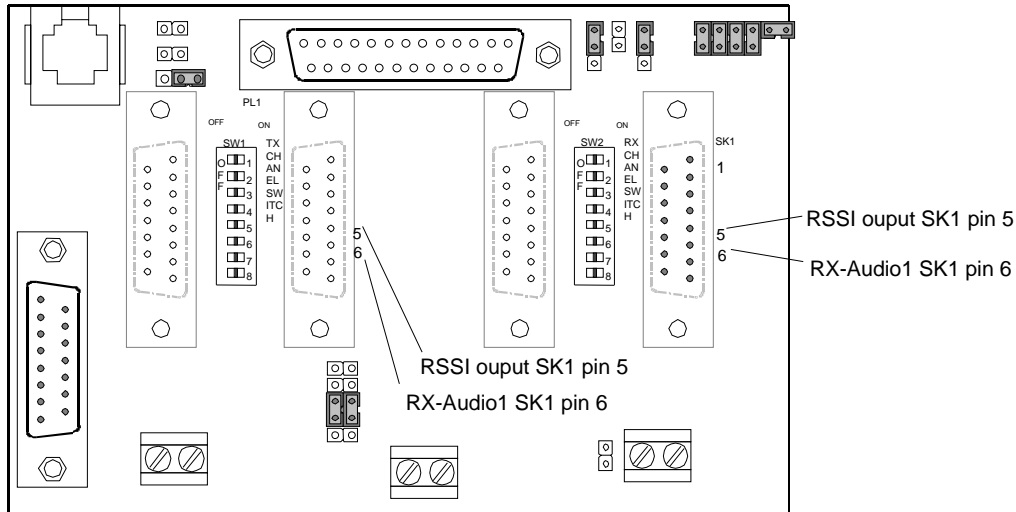

Figure 24 - T800-50-0001 Backplane
- Caution: mis-adjusting RSSI may reduce the Paragon^{PD}'s Parallel Decode (PD) performance.
- Adjust RV 345 (RSSI level) for T885, RV320 (RSSI level) for T855 to give 2.0V RSSI output at SK330 pin 2 (T855) or on backplane SK1 pin 5 when measured with a voltmeter (See Figure 24 for test point location).
- Adjust RV320 (RSSI level) to give 4.5V RSSI output at RSSI test point (near quad. Coil L360) or on backplane SK1 pin 5 when measured with a voltmeter (Figure 24 - T800-50-0001) for test point location).